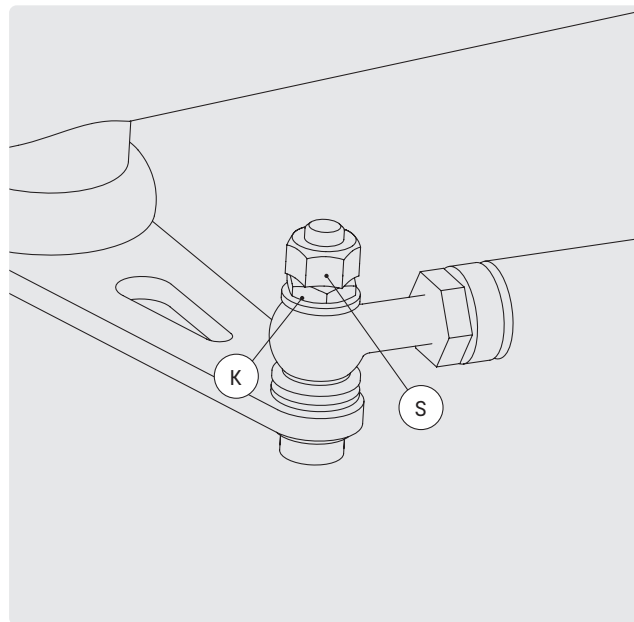

FIG. 33
- If you prefer a stiffer steering tighten the flat nut K on the steering linkage slightly stronger (Fig. 33). For this you must first remove the self-locking nut S.